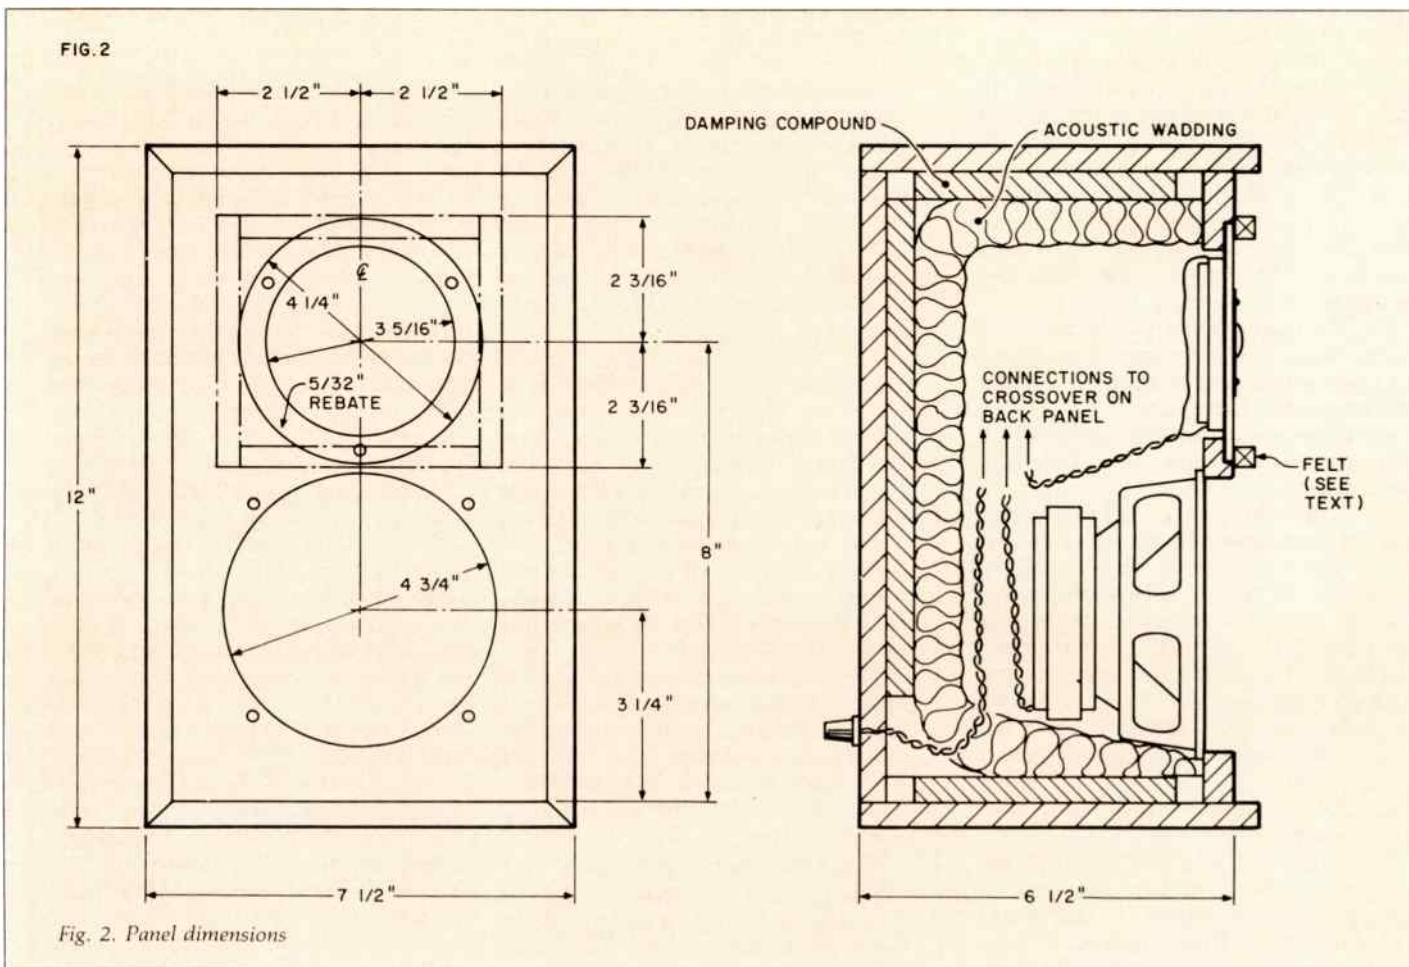

Fig. 2. Panel dimensions
1. For a pair of enclosures you will need four panels each of 1/2" x 7" x 7 1/2"; 1/2" x 7" x 11"; and 1/2" x 6 1/2" x 11". (See Fig. 2.)